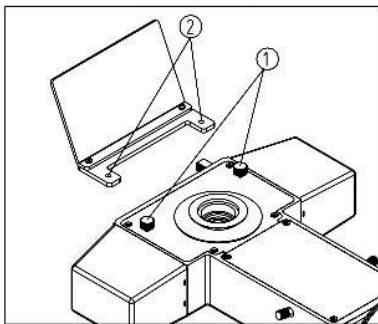

Fig. 3
The UV Protection Shield (Fig. 3)
Remove the lock screws (1) located on the bottom of the fluorescence illuminator (Fig. 3). Match up the holes (2) on the UV protection shield to the lock screw holes then install and tighten the screws.